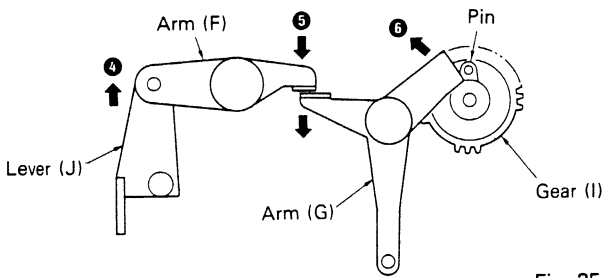

Fig. 25
- As lever (J) moves in the direction indicated by arrow ④ in Figure 25, lever (J) moves in the direction indicated by → arrow ⑤ and pushes against arm (G). Arm (G) moves in the direction of arrow ⑥, releasing the pin on gear (I).